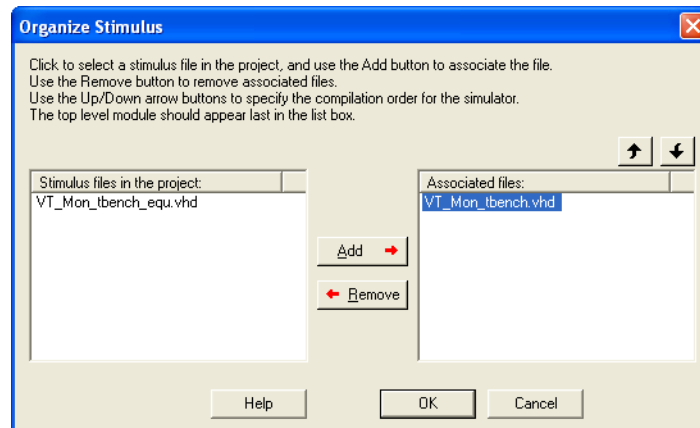

Figure 4-1 · Organize Stimulus Dialog Box
2. Select your testbench file and click **Add**. This adds your testbench to the Associated Files list (Figure 4-1).